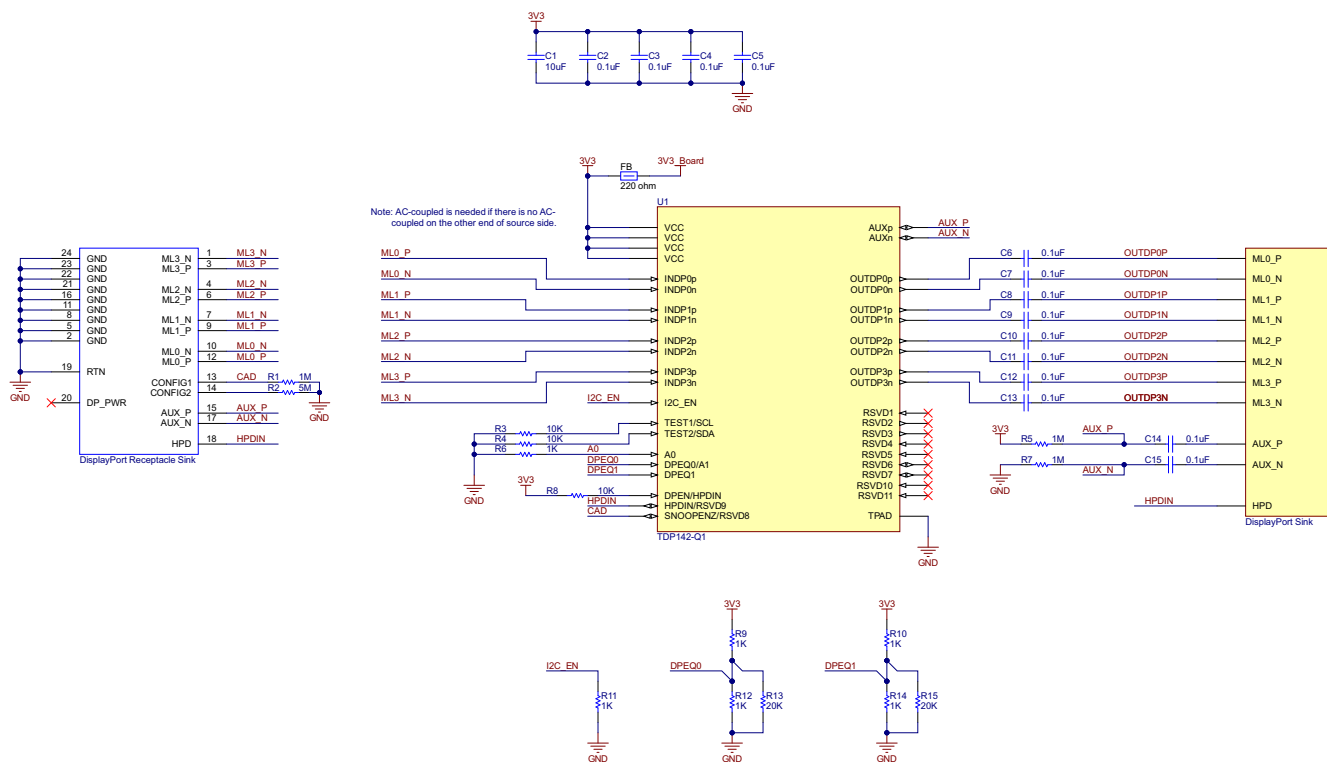

Figure 8-4. Block diagram of DisplayPort Sink Application
Figure 8-4 is the schematic for the sink application. The left side of the TDP142-Q1 is connected to DisplayPort receptacle, and the right side of the TDP142-Q1 is connected to Scaler or DisplayPort sink.
- See Figure 8-4 for information on the source application that uses AC coupling capacitors, control pin resistors, and the recommended decouple capacitors from VCC pins to ground.